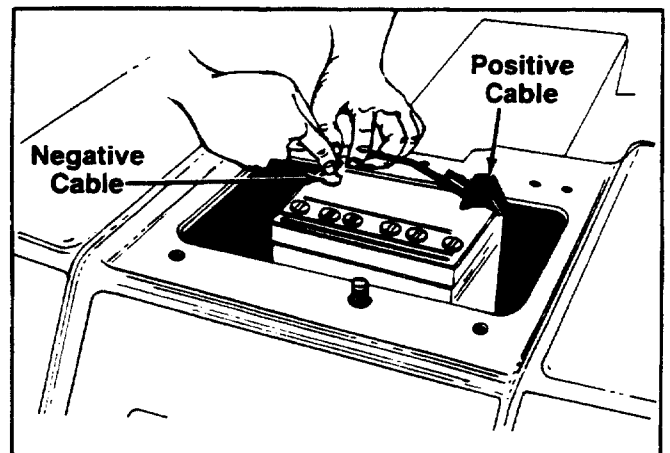

FIGURE 4.
5. On other models, other than 1572, remove the battery, by removing the negative cable first, then the positive cable. See figure 4.